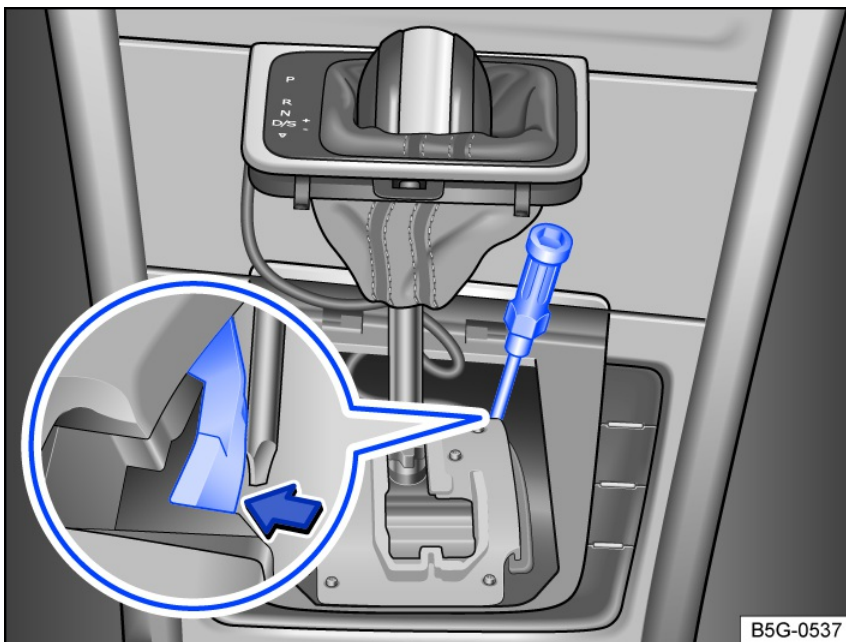

Fig. 102 Manually release the Automatic Shift Lock (ASL) (variant 1).
1. Using the flat blade of the screwdriver from the vehicle toolkit, carefully push the release lever in the direction of the arrow *fig. 102* (detail drawing) and hold it in this position (variant 1).